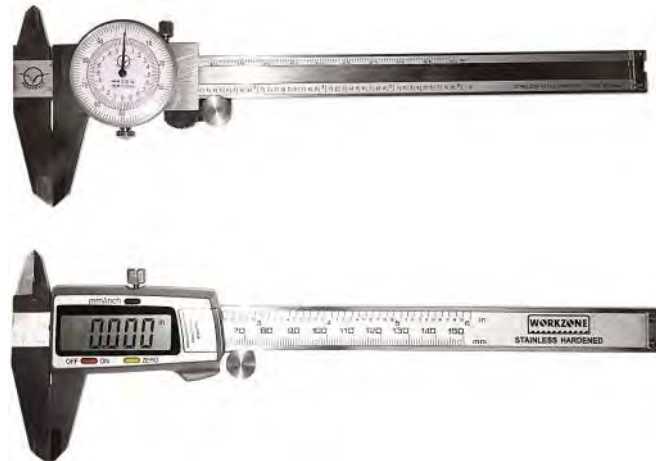

Figure 78: Reading a Dial Caliper
- b. Close the caliper completely and ensure that the caliper reads 0.000" (Figure 78). If the caliper does not read 0.000", consult the caliper manual for procedures to zero the caliper and zero the caliper before performing the inspection.
- i. Close the caliper completely and ensure that the caliper reads 0.000" (Figure 78). If the caliper does not read 0.000", consult the caliper manual for procedures to zero the caliper and zero the caliper before performing the inspection.